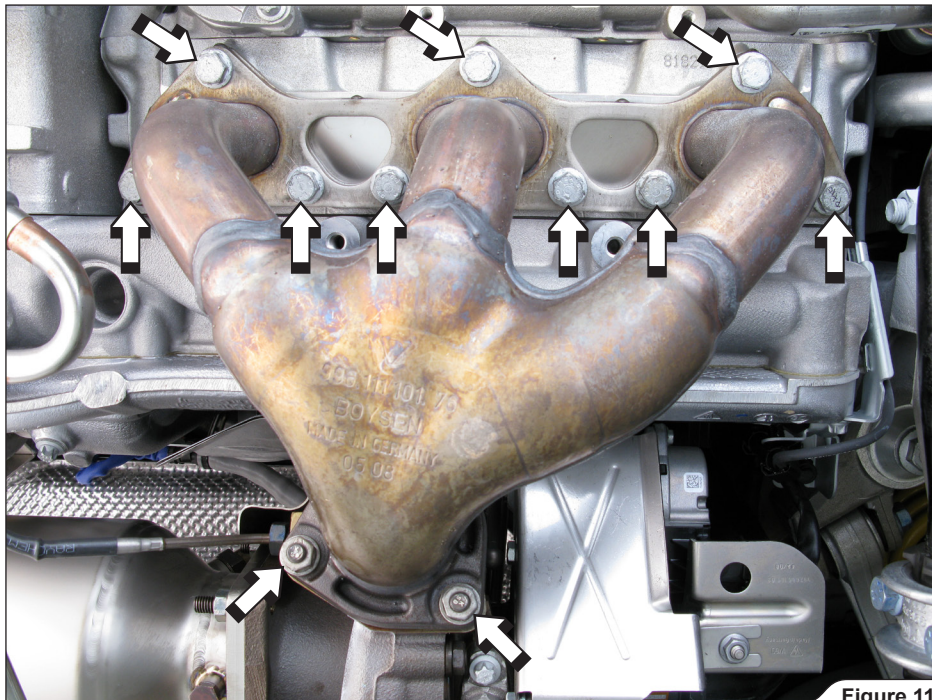

Figure 11
9. **For Evolution:** unscrew marked bolts and nuts of the headers on both sides of the vehicle (**Figure 11**). Remove the headers off the vehicle.